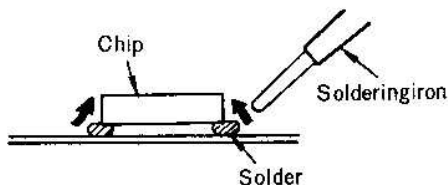

Fig. 14
3. Solder circuit board first and then solder chip in the direction of the arrow as shown in fig.14.